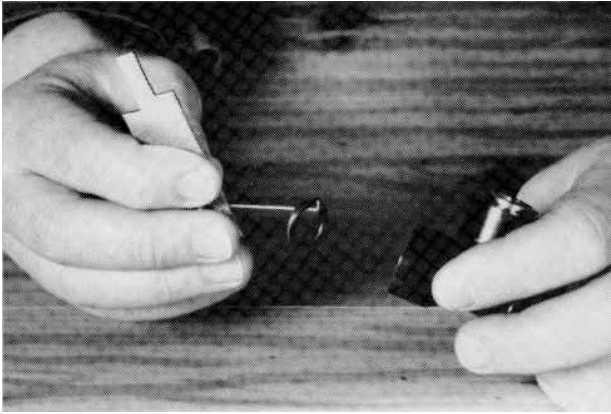

Figure 107 Remove O-ring
10. Remove the O-ring using the repair tool O-ring remover (Figure 107). Discard the O-ring. Avoid scratching the O-ring cavity during removal of the O-ring.